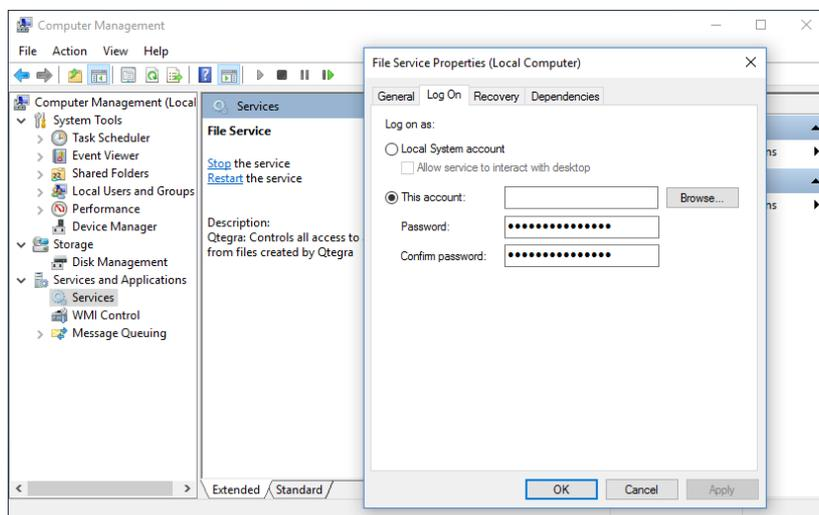

Figure 2-17. File Service Properties window
2. Double-click **File Service** to open the Properties window, see Figure 2-17.